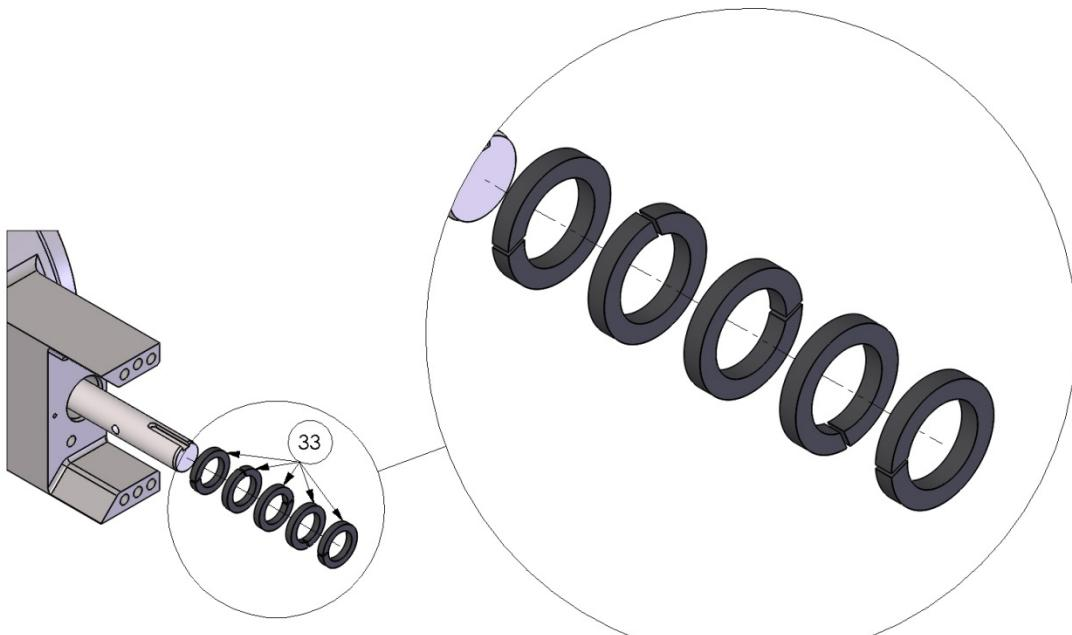

Fig. 5a
- b. Insert the new packing set (Items 33) being sure to the split in the packing is rotated 90° from the last packing ring. (see fig. 5a)